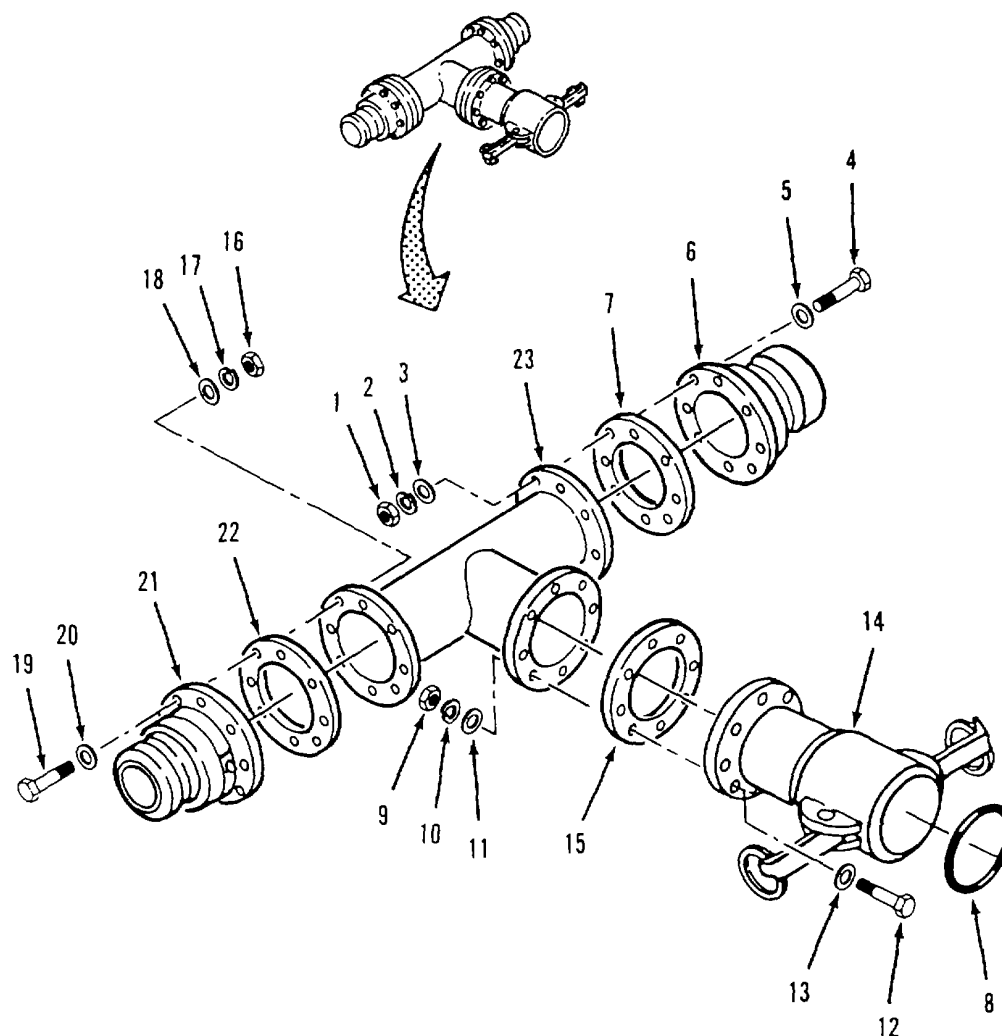

Figure 4-26. Tee Assembly (9112-Y4) Assembly
- e. Assembly. Refer to figure 4-26.
- (1) Position gasket (22) and male coupling (21) on tee (23).
- (2) Install eight flat washers (20), screws (19), flat washers (18), lockwashers (17) and nuts (16).
- (3) Position gasket (15) and female coupling (14) on tee (23).
- (4) Install eight flat washers (13), screws (12), flat washers (11), lockwashers (10) and nuts (9).
(1) Inspect bonnet (10) and valve body (17) for cracks, scored mating surfaces, stripped threads and corrosion.
(2) Inspect for bent stem (12) and galled or stripped threads.
(3) Inspect sealing surfaces of discs (14 and 15) and valve body (17) for deep scratches and cracks.
(4) Inspect male coupling (9, figure 4-26) for cracks and corrosion.
(5) Inspect female coupling (19) and cap (3) for cracks and broken locking arms.